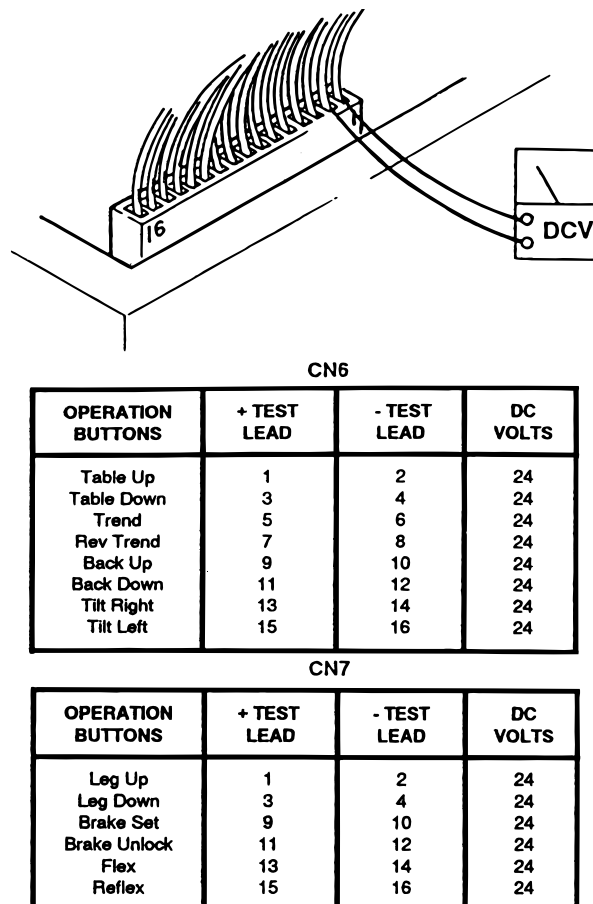

Figure 6-20. Connector CN6 or CN7
3. Activate each of the pendant control buttons and measure the output voltage for the corresponding connector pins with a DC voltmeter. See figure 6-20.